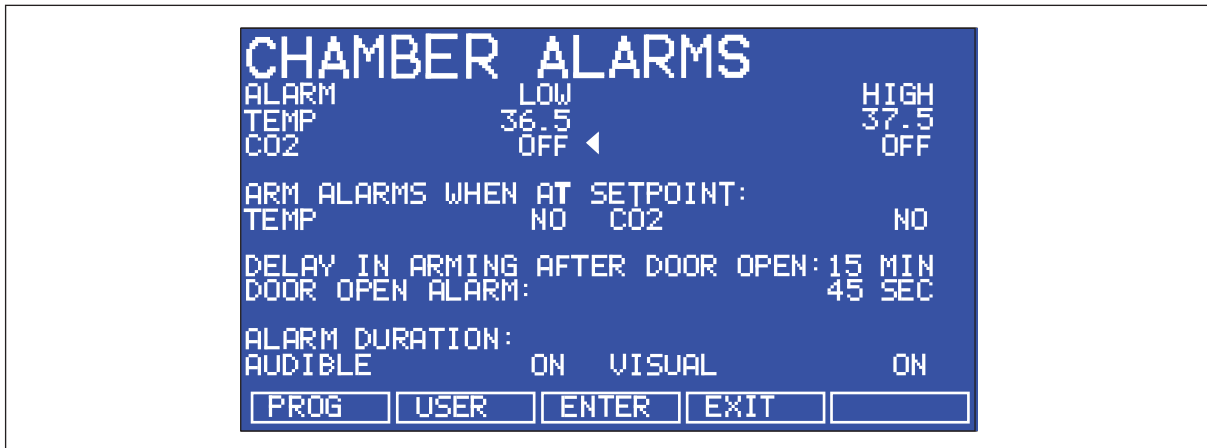

Fig. 6-8: *CHAMBER ALARMS* screen
The *CHAMBER ALARMS* programming screen (see Fig. 6-8 on p. 53) allows the various alarm options to be selected and modified. Press the ▲ or ▼ direction key to move around the options and the ◀ or ▶ direction key to adjust values. The temperature and CO₂ High and Low Alarm setpoints automatically adjust to within ±0.5 of the temperature and CO₂ setpoints. The alarm setpoints can also be manually adjusted.
2. Select *NO* for both *TEMP* and *CO₂* (see Fig. 6-8 on p. 53).
3. Choose the option *DELAY IN ARMING AFTER DOOR OPEN* and select the desired delay (15 minutes in the sample screen (Fig. 6-8 on p. 53)) to allow for temperature and CO₂ recovery after the door has been opened.
A *DOOR OPEN ALARM*: can be adjusted, choosing from seven preset durations (45 seconds in (Fig. 6-8 on p. 53)) to warn of an improperly closed door.